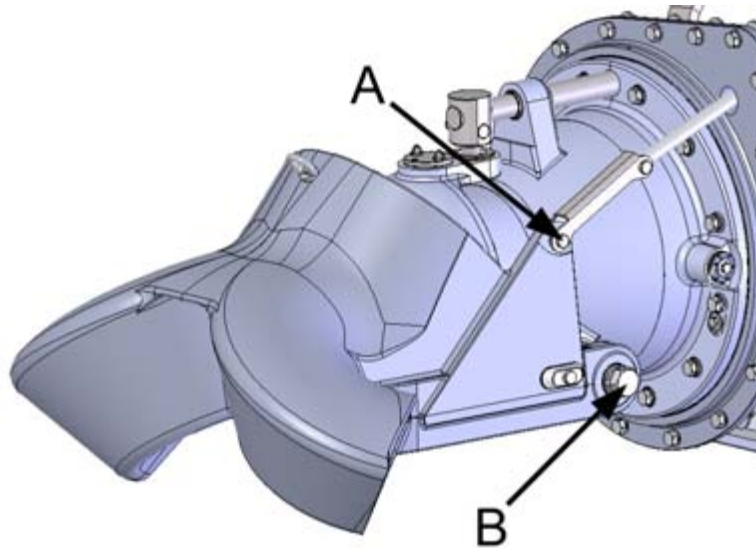

Figure 32. Removing the reversing deflector
2. Open the pivot bolt of the intermediate bar that connects the hydraulic cylinder to the reversing deflector (figure 32, point A).
3. Open the stator fastening screws (2 pcs, figure 32, point B).